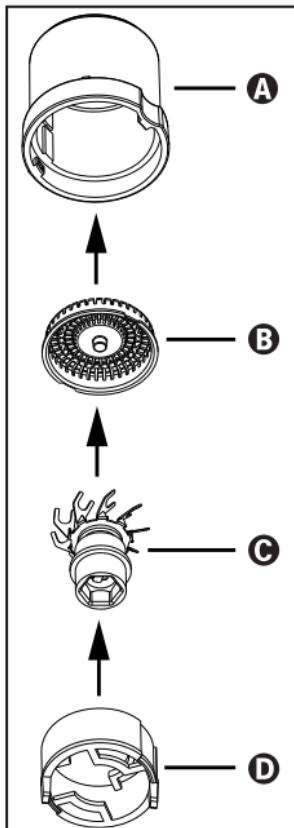

Fig. 1
- 1) Remove the shaving head **②** as described in the section "Removing and cleaning the shaving head".
- 5) To re-assemble, insert the cutting head cover **B** into the shaving head housing **A** so that the indentations on the cutting head cover **B** slide into the catches on the inside of the cutting head cover **A** (see fig. 1).
- 7) Push the connecting piece **D** into the cutting head housing **A**. The protruding spacer of the connecting piece **D** must point towards you (see fig. 1). Ensure that the indentations on the cutting head cover **D** slide into the catches on the inside of the cutting head cover **A**.